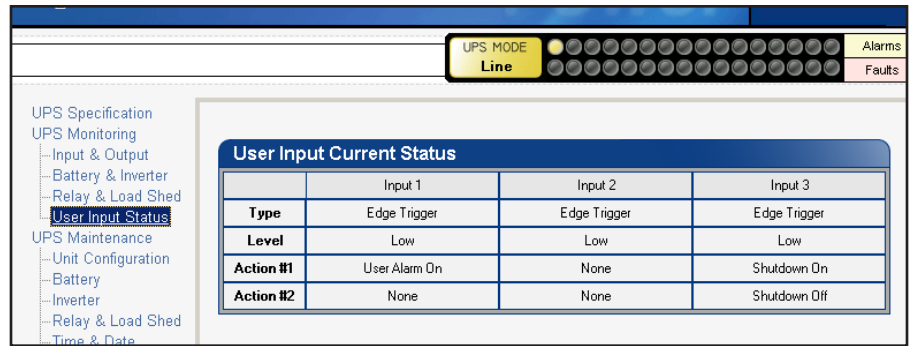

Figure 7.41 – User Input Current Status
7. Check the **User Input Current Status** at the **UPS Monitoring > User Input Status** page. (Figure 7.41)